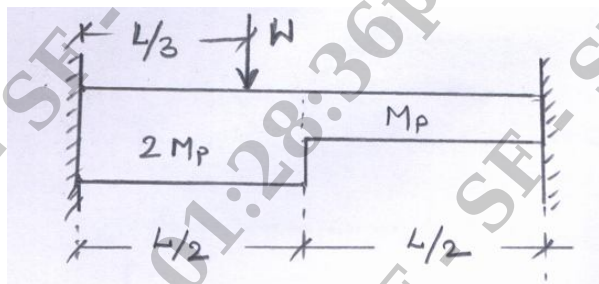

Fig. Q4 (c)
c. A fixed beam is subjected to a load 'W' as shown in the Fig. Q4 (c). Estimate the collapse load. (08 Marks)